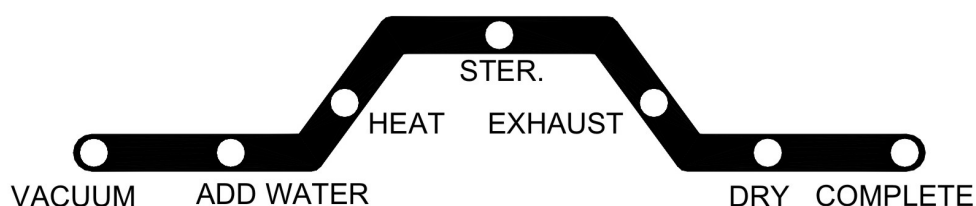

Figure 41
- F. Press the START Button , the setting temperature, duration, and dry time displayed two times on the three-digit display, and then the sterilizer will automatically run through the selected program. The current progress of the sterilization cycle is indicated by the illuminated LED on the Process Status Indicator. (Figure 41).